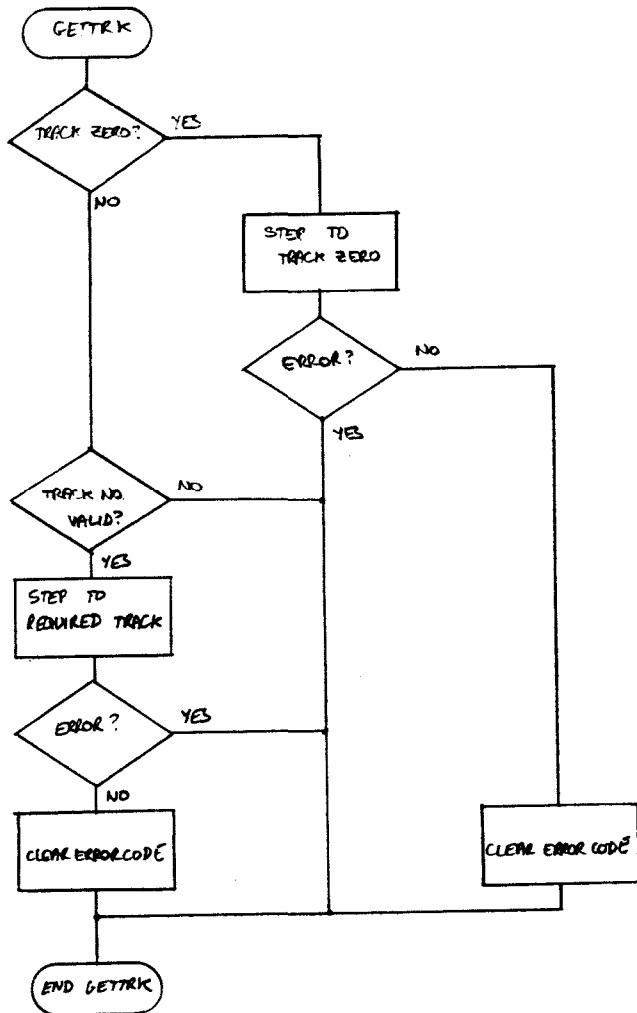

Figure 3.7 Flowchart for GETTRK
3.4./ GETTRK routine (figure 3.7.)